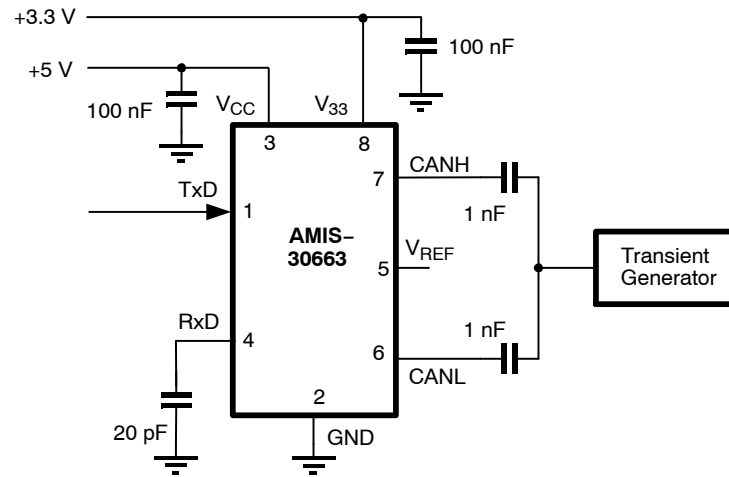

Figure 4. Test Circuit for Automotive Transients
2. Applied transient waveforms in accordance with "ISO 7637 part 3", test pulses 1, 2, 3a and 3b (see Figure 4).